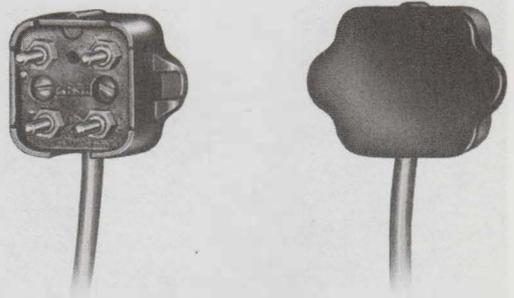

Fig. 40—283B Plug (MD)
B. 283B Plug (MD)
3.02 The 283B plug (Fig. 40, 41, 42, 43) is a 2-piece, 4-contact plug of molded plastic in colors to match telephone set colors as shown in Table C. The mounting cord is secured by either a wing band inserted into a slot in the cover or an S hook or flat eyelet stay band secured with a self-tapping screw packed with the plug.